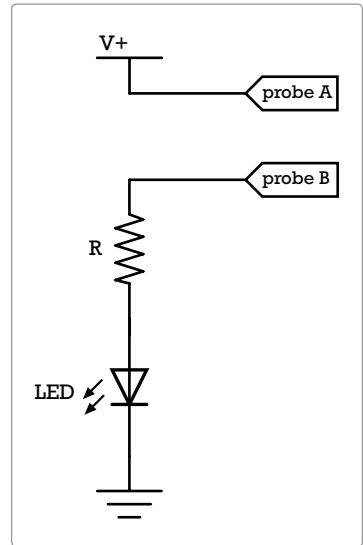

FIGURE B-1: A simple continuity tester circuit
7. No multimeter handy, but still need to check continuity? I've got you covered: there's a simple LED-based continuity tester in Appendix B: see Figure B-1 on page 358. Enjoy!
Most digital multimeters have a built-in continuity tester, but maybe yours doesn't, or maybe your meter isn't handy. No worries! In about a minute you can build the simple continuity tester shown Figure B-1.